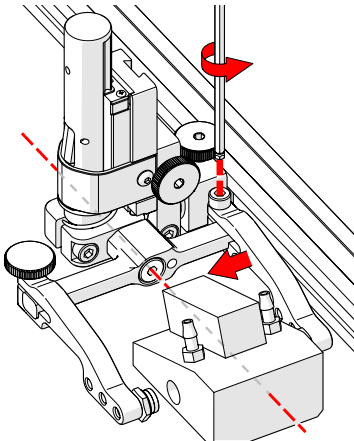

Fig. 174 - Adjust inner arm
4. Position the wedge on the inner probe holder arm (Fig. 174).
TIP: The probe holder yoke can accommodate many different probe and wedge sizes of varying widths. It is best to centre the wedge with the yoke's pivot axis. This can reduce wedge 'rocking' when scanning. Position the inner probe holder arm accordingly (Fig. 174) using the supplied 3 mm hex driver (Fig. 1).